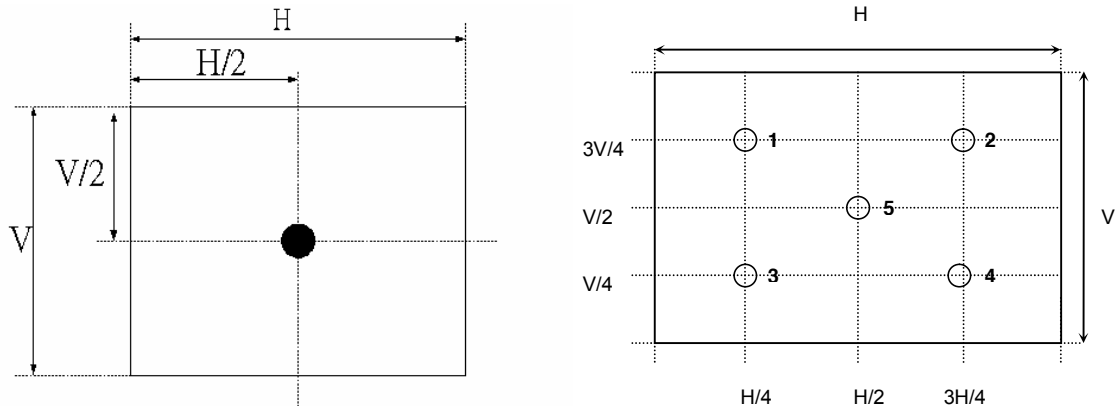

Fig.4-2 Optical measurement point
2. Surface luminance is luminance value at point 1 across the LCD surface 50cm from the surface with all pixels displaying white. From more information see Fig. 4-2. When $V_{DD} = 24V$, $I_{DD} = 6.4A$.